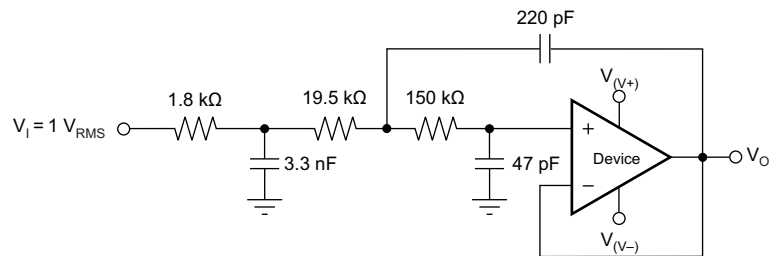

图 37. OPA355-Q1 Configured as a Three-Pole, 20-kHz, Sallen-Key Filter
3. Using a noninverting filter topology, such as the Sallen-Key (see Figure 37).